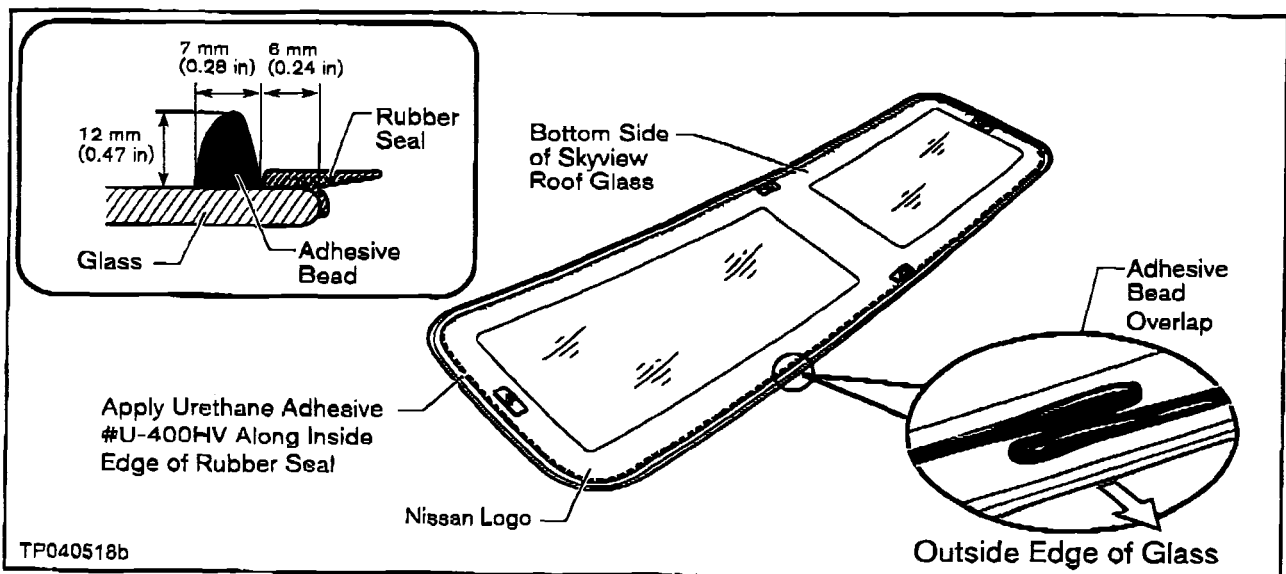

Figure 10
- Figure 10 (page 7) was revised to include a rubber seal on the glass.
13. Apply a bead of Urethane Adhesive to the new Skyview Roof Glass over the Primer coats (see Figure 10).
- Apply Adhesive around the Glass, on top of the U-402 that you just applied, so the adhesive bead runs along the inside edge of the rubber seal (see Figure 10).